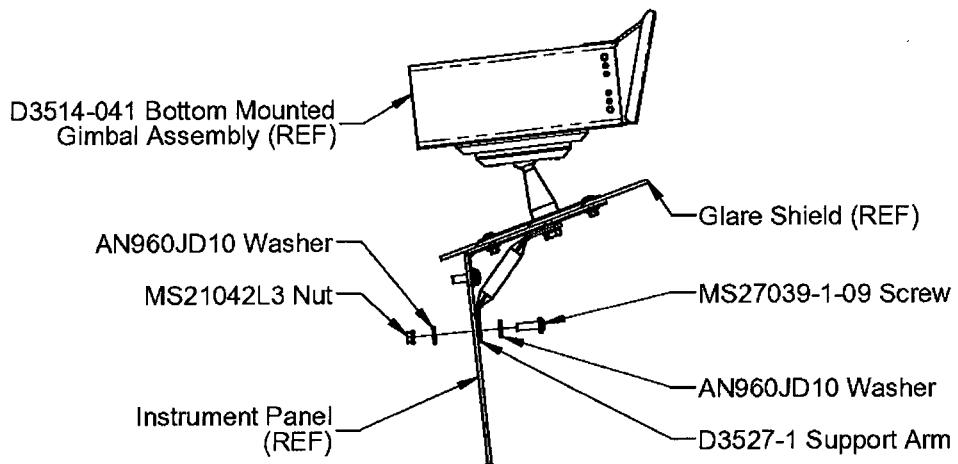

Figure 3.2.5 – Installation of the D3527-1 Support Arm
3.2.8 Transfer drill qty(1) #9 (\varnothing 0.196") hole from the D3527-1 Support Arm through the helicopter instrument panel. Deburr and touch up the hole per the Aircraft Maintenance Manual. Secure the D3527-1 Support Arm to the instrument panel using the MS27039-1-09 screw, qty(2) AN960JD10 washers and the MS21042L3 nut as shown in *Figure 3.2.5*. Torque the screw to 15-25 in-lbs (1.7-2.8 N-m).